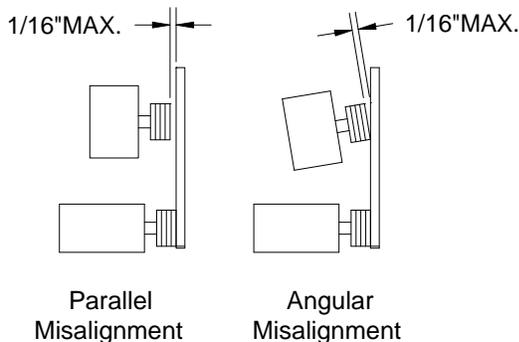

Figure 5-9
2. Allow one (1) minute after the compressor stops for the pressure to be relieved.
6. If the alignment is greater than 1/16" in either direction, as shown in Figure 5-9, loosen the belts as outlined in "Changing the belts" section and align the sheaves.